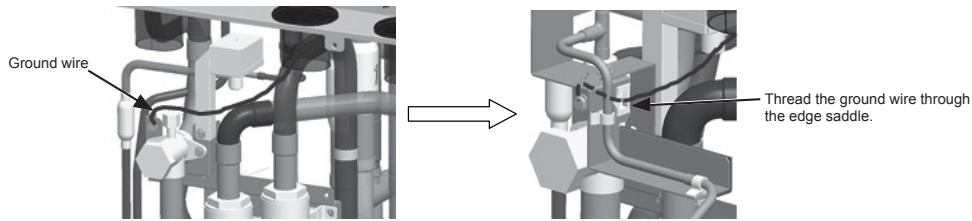

Figure 2 [Group D]
*For Group D models of units, as shown in Figure 1 FRONT VIEW, replace the mounting plate with ②, and screw down the mounting plate ② with the solenoid valve mounting plate fixing screw. The ground wire must be threaded through the edge saddle of the sheet metal of the medium pressure sensor assembly. (Figure 2)